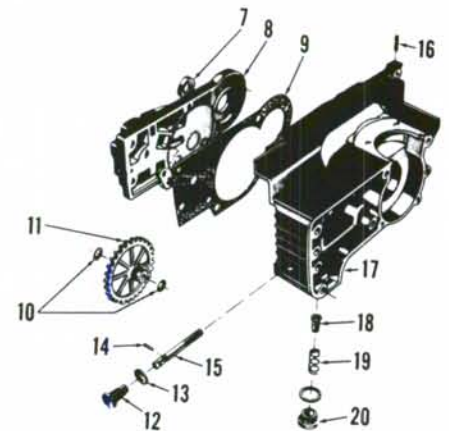
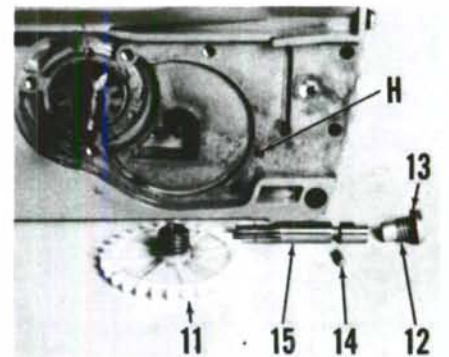

Fig. H15—Exploded view of early oil pump assembly.
Fig. H16—View of oil pump components. Pin (14) is located in hole (H). Refer to Fig. H15 for parts identification.
AUTOMATIC OIL PUMP. Models 140S, 240S, 240SE and 240SG are equipped with the automatic oil pump shown in Fig. H15 and Fig. H16. Oil pump output is not adjustable. Access to oil pump components is obtained after removing guide bar plate (8—Fig. H15). Withdraw pin (14), unscrew plug (12) and withdraw plunger (15). Oil pump is